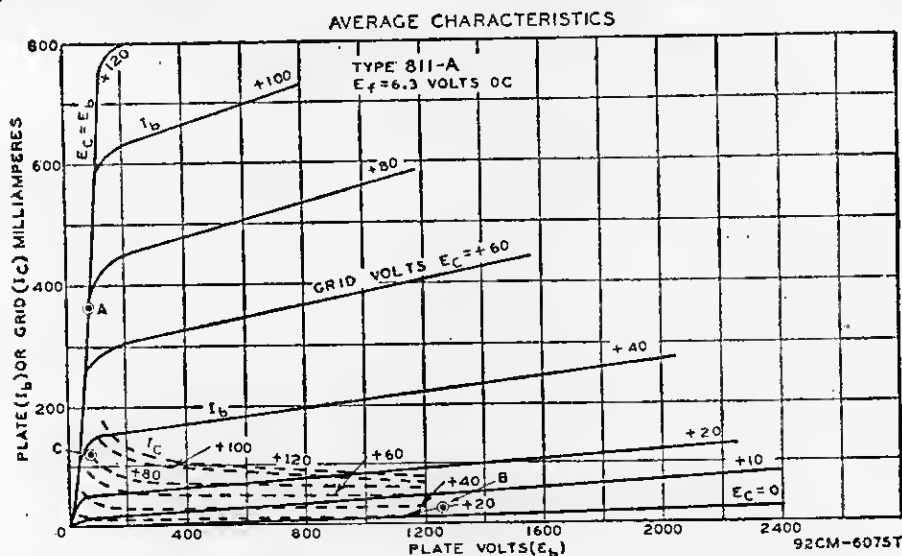

Fig. 48
Calculate operating values for the RCA-811A for linear rf power amplifier service under ICAS conditions. Refer to Fig. 48 for curve values.
- (1) Select  $E_b = 1250$  volts.
- (2) Calculate:  $I_{be} = 0.9 P_{ine}/E_b = 0.9 \times 165/1250 = 0.12$  ampere.
- (3) Calculate:  $I_{bmax} = 3 I_{be} = 3 \times 0.12 = 0.36$  ampere.
- (4) Calculate:  $I_b = I_{be}/1.4 = 0.12/1.4 = 0.09$  ampere.
- (5) On Fig. 48 locate  $I_{bmax} = 0.36$  ampere at Point A. Read  $E_{cmax} = 80$  volts;  $E_{bmin} = 80$  volts.
- (6) Calculate  $I_{b0} = I_{be}/5 = 0.12/5 = 0.024$  ampere.
- (7)  $P_{ine} = E_b I_{be} = 1250 \times 0.120 = 150$  watts.
- (8) Calculate:  $PEP = (I_{bmax}/4)(E_b - E_{bmin}) = (0.36/4)(1250 - 80) = 0.09(1170) = 105$  watts.
- (9)  $P_p = 0.7 P_{ine} - 0.5 PEP = (0.7) 150 - (0.5) 105 = 52.5$  watts.
- (10) Record:  $E_g = E_{cmax} = 80$  volts.
- (11) On Fig. 48 locate  $I_{cmax} = 0.12$  ampere at Point C.
- (12) Calculate:  $I_{ce} = I_{cmax}/3 = 0.12/3 = 0.04$  ampere.
- (13) Calculate:  $I_c = I_{ce}/1.4 = 0.04/1.4 = 0.028$  ampere.
- (14) Calculate:  $P_d = E_g (I_{cmax}/4) = 80(0.12/4) = 2.4$  watts.